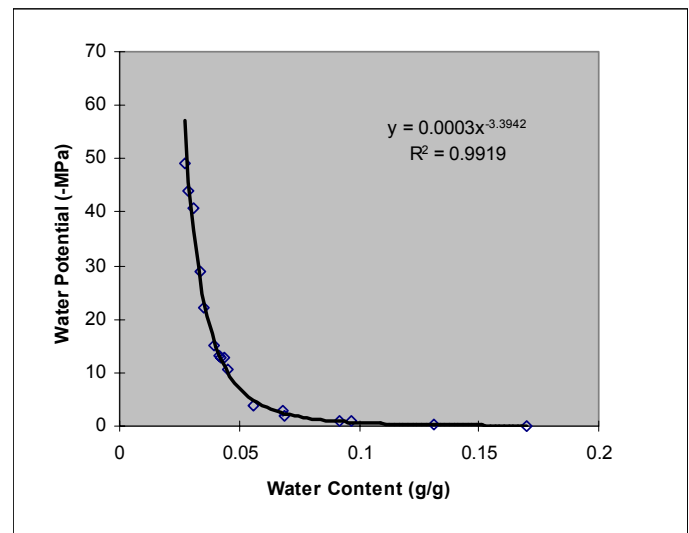

Figure 1.: Sample Moisture Release Curve for Walla Walla Silt Loam using the WP4 Dewpoint PotentiaMeter\*
9. The resulting data can then be plotted in a spreadsheet as shown in Figure 1.